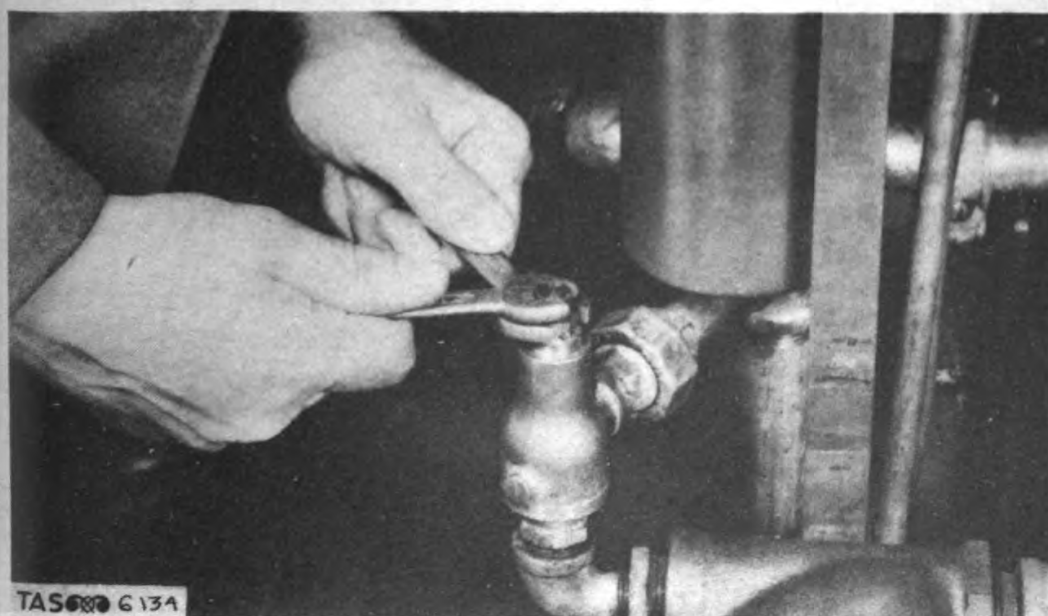

Fig. 134. Adjusting Relief Valve.
t. Relief valves. (1) It is extremely important that these valves be kept spotlessly clean.
(2) Sometimes a relief valve can be cleared by simply tapping its bonnet with a heavy tool, such as the head of a large screwdriver. If this fails to dislodge dirt, clean the strainer nearest the valve, remove the valve bonnet, and wipe out the interior with a clean, lintless rag.
(3) Each relief valve on the generator is set to permit the passage of a predetermined amount of fuel. To increase or decrease the relief, loosen or tighten the spring. This can be done by removing the top, holding the nut with one open-end wrench, and turning the screw with another. (See fig. 134.)